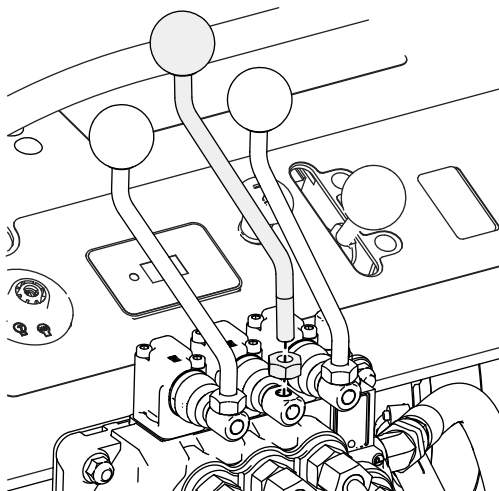

Figure 9
1. Install the handle assembly to the control valve manifold with the hex nut (M10) as shown in Figure 9.